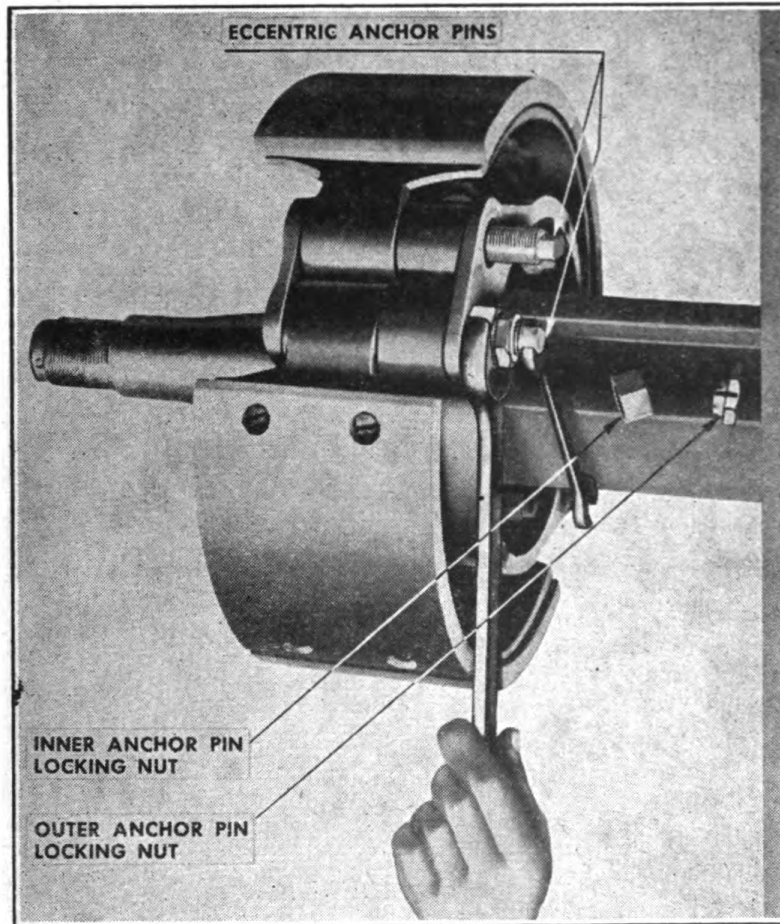

FIGURE 22. LOOSENING BRAKE ANCHOR PINS.
a. Loosen both nuts on both anchor pins so that the anchor pins can be moved freely (Fig. 22).
f. Prior to installing wheels, loosen the two anchor pins (Fig. 22). Make certain they move freely and easily. It is essential that the anchor pins move freely so that the major brake adjustment can be properly accomplished.